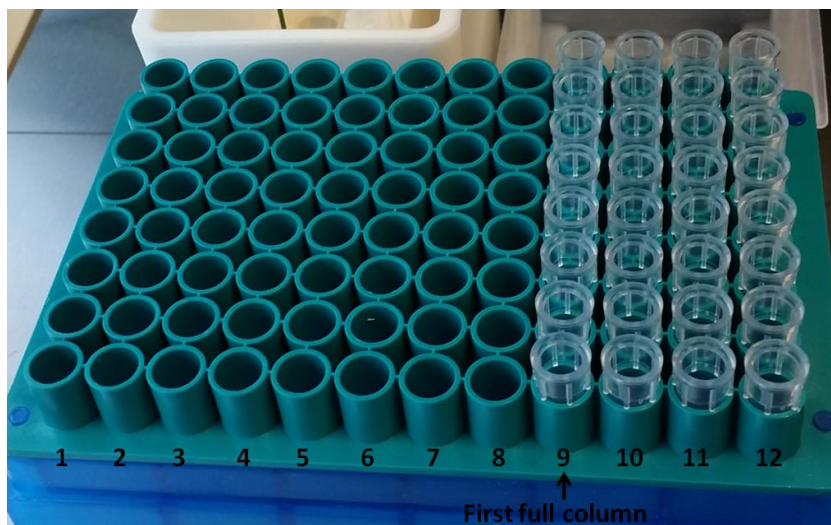
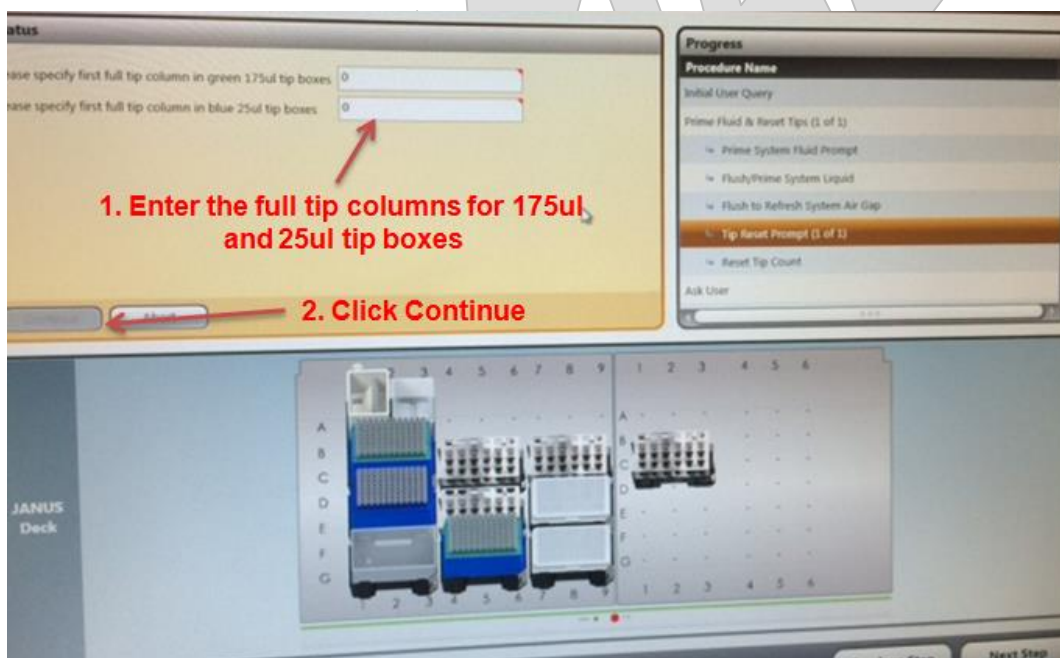

Figure 8A: Pipette tip box orientation
Figure 8B: Pipette tip box setup
- 3.18. Once the lines have been flushed, the user will be prompted to enter the column number containing a full column (8) of pipette tips in the green 175µL tip box. See Figure 8A for an example of the pipette tip box orientation on the deck. See Figure 8B for an image of the software screen.
- 3.19. The orientation of the tips within the tip box is important, more specifically the horizontal (column) orientation of the tips. If using a full tip box, enter 1 in Figure 8B. This indicates that the entire tip box is full of tips. If using a partial tip box, position the box so all empty columns are to the left. The tip box shown in Figure 8A has column 9 as the first full tip column. If there are a few tips mixing in sporadic spots, re-position them so no partial